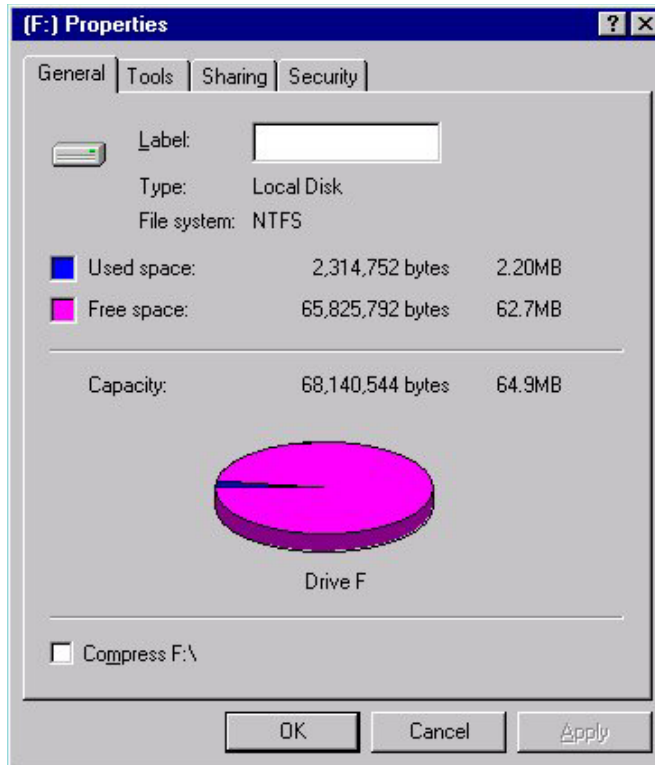

Figure 3.11 Verifying New Device Properties
3. On the Properties panel (see Figure 3.11), verify that the properties are correct: label (optional), type, capacity, and file system.
- a) Verify the device properties for all new devices (see Figure 3.11).